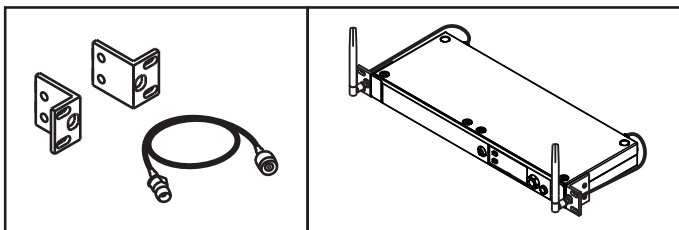

Fig. 6
(C) Install the optional FB-72 rack mount kit & rear-to-front cables for improved reception quality, Fig. 6.